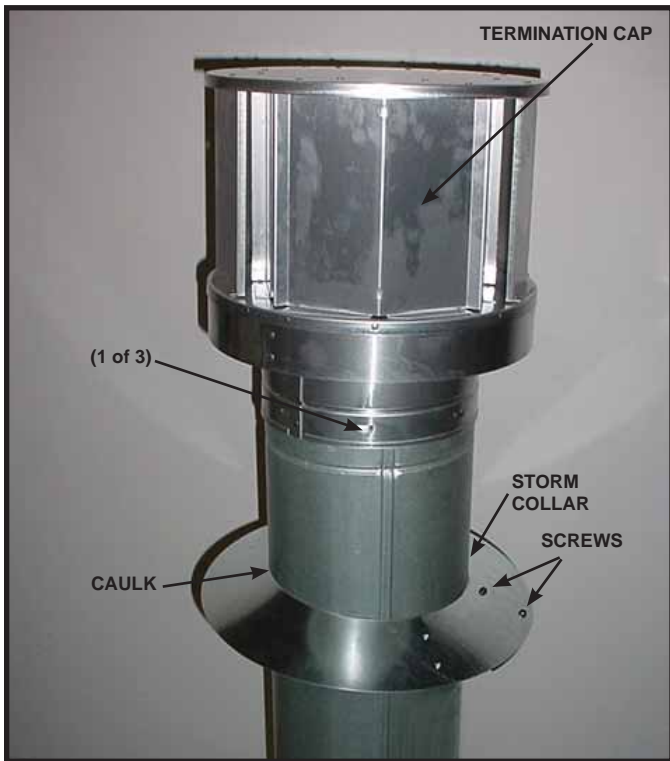

Figure 10.14
- Secure the cap by driving three self-tapping screws (supplied) through the pilot holes in the outer collar of the cap into the outer flue of the pipe (see Figure 10.14).